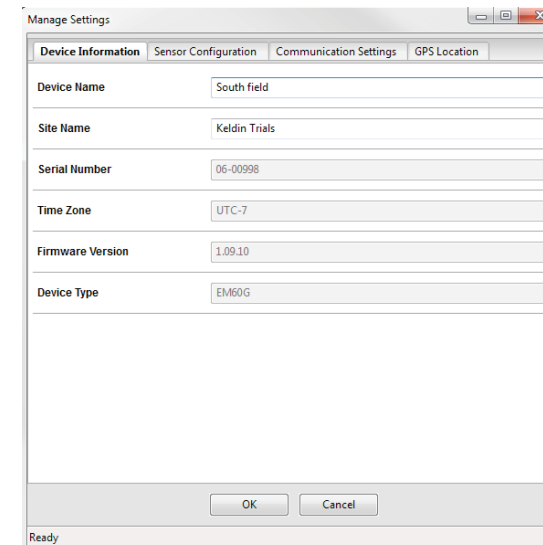

Figure 4 Device Information tab
- Navigate to the Device Information tab (Figure 4).